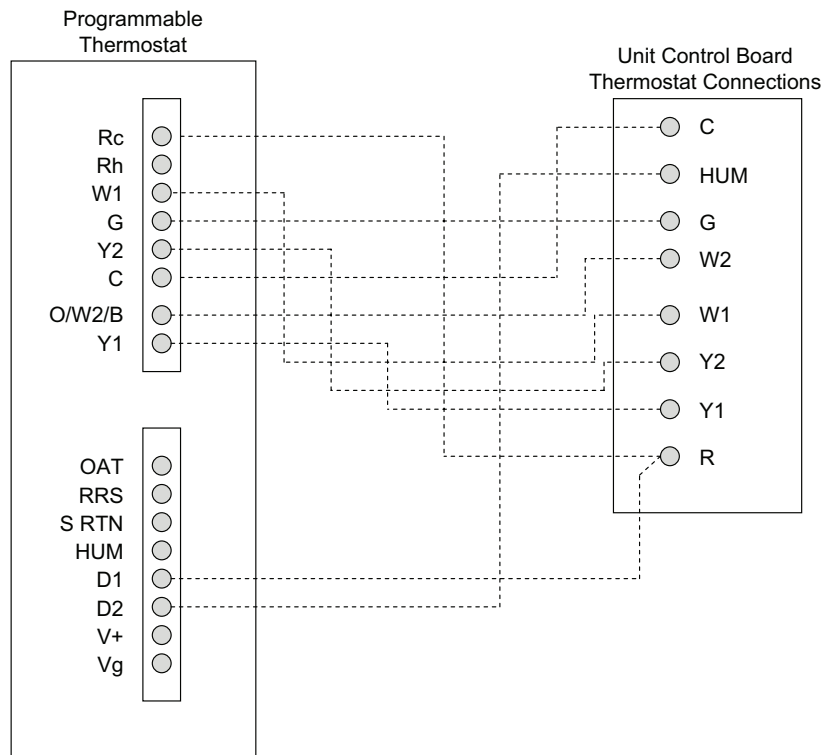

Fig. 33 — Typical Rooftop Unit with Hot Gas Re-Heat Dehumidification System and Programmable Thermostat
3. The thermidistat has dry contacts at terminals D1 and D2 for dehumidification operation (see Fig. 33). Connect D1 to the R terminal on the UCB. Connect D2 to the HUM terminal on the UCB. Refer to the installation instructions included with the field-installed thermidistat device for more information.